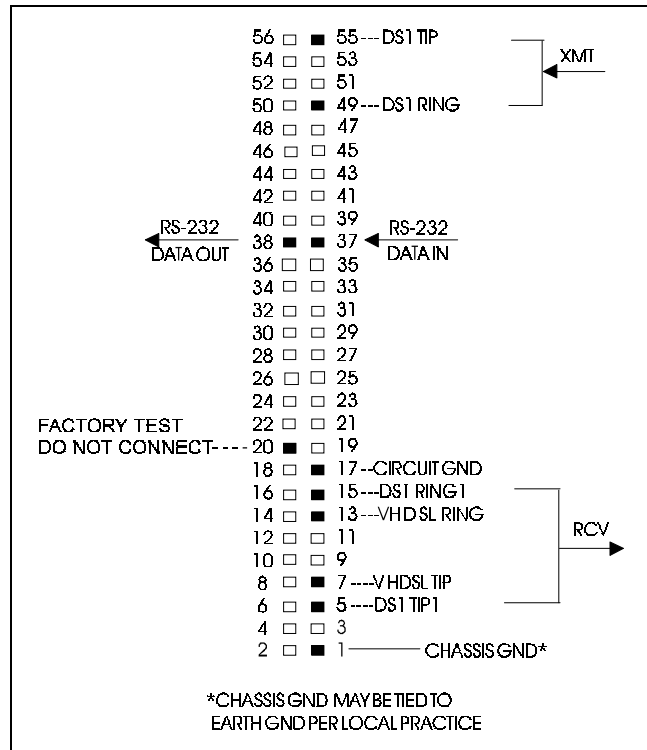

Figure 6. HRU-612 Pin-outs.
11.02 The HRU-612, List 2 is designed to mount in PairGain's HRE-421 (double width, single mount), HRE-422 (double width, double mount), HRE-427 (double width, 7 unit wall mount), or HRE-420 (single width, single mount). For outdoor applications, the HRE-423 (3 unit) and HRE-450 (single width, single mount) enclosures are available. The HRU is also compatible with industry standard 400 type multi-mount shelves. The HRU's pin-outs are shown in Figure 6.